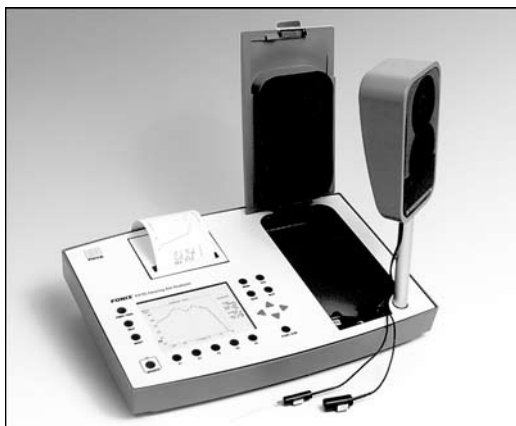

Figure 3.8.2A—Speaker on the extension pole
3. Install the speaker on the extension pole. See Figure 3.8.2A.